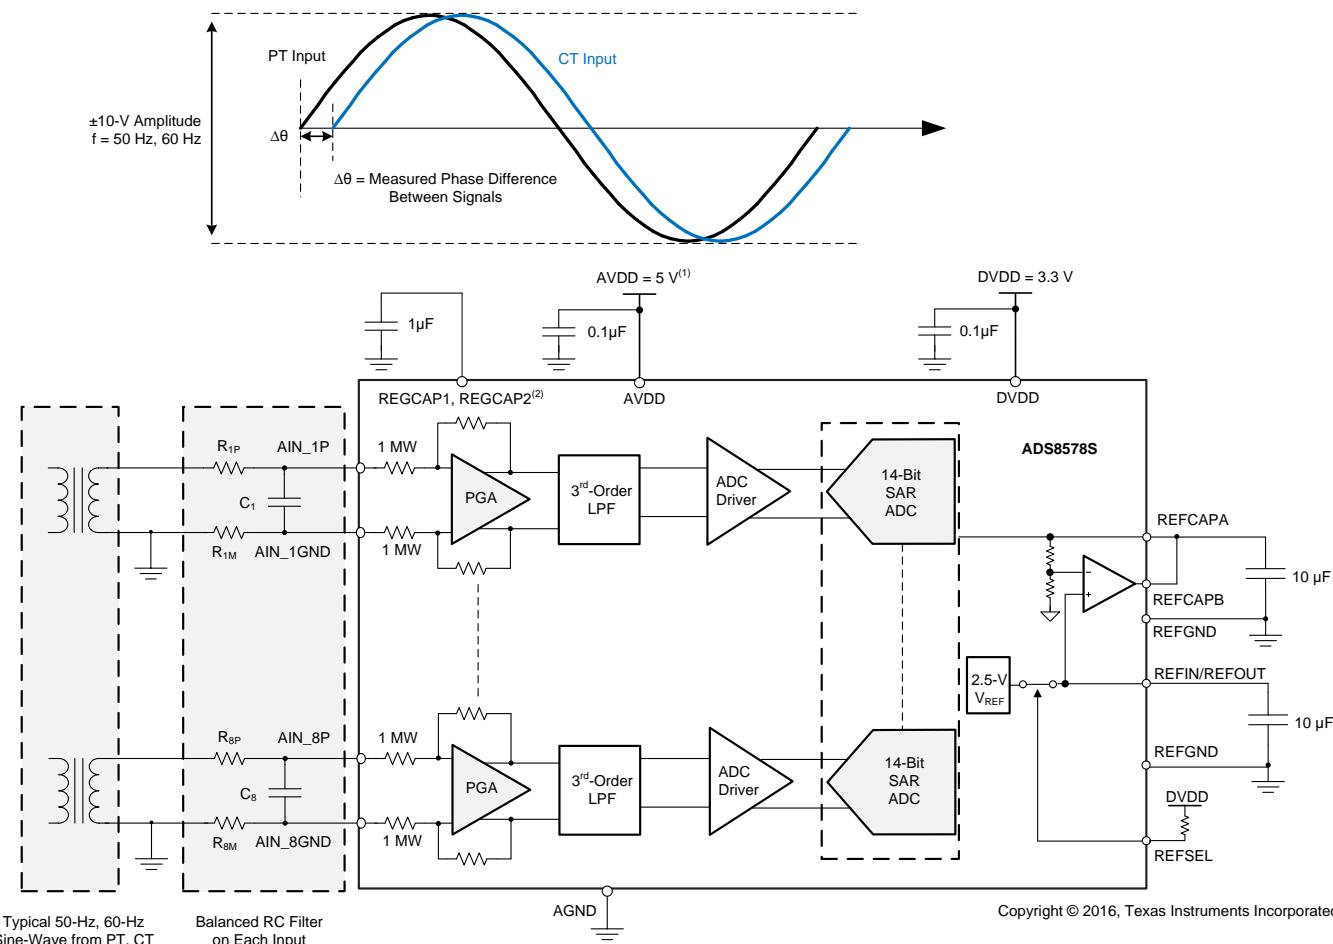

Figure 84. 8-Channel DAQ for Power Automation Using the ADS8578S
- Output range of the potential transformers (elements labeled PT in Figure 84)
- Output range of the current transformers (elements labeled CT in Figure 84)
The PT and CT used in the system (see Figure 84) have a $\pm 10\text{-V}$ output range. Although the PT and CT provide isolation from the power system, a series resistor must be placed on the analog input channels. The series resistor helps limit the input current to $\pm 10\text{ mA}$ if the input voltages exceed $\pm 15\text{ V}$. For applications that require protection against overvoltage or fast transient events beyond the specified absolute maximum ratings of the device, an external protection clamp circuit using transient voltage suppressors (TVS) and ESD diodes is recommended.
The primary goal of the data acquisition system illustrated in Figure 84 is to measure up to 20 harmonics in a 60-Hz power network. Thus, as shown in Equation 1, the analog front-end must have sufficient bandwidth to detect signals up to 1260 Hz.